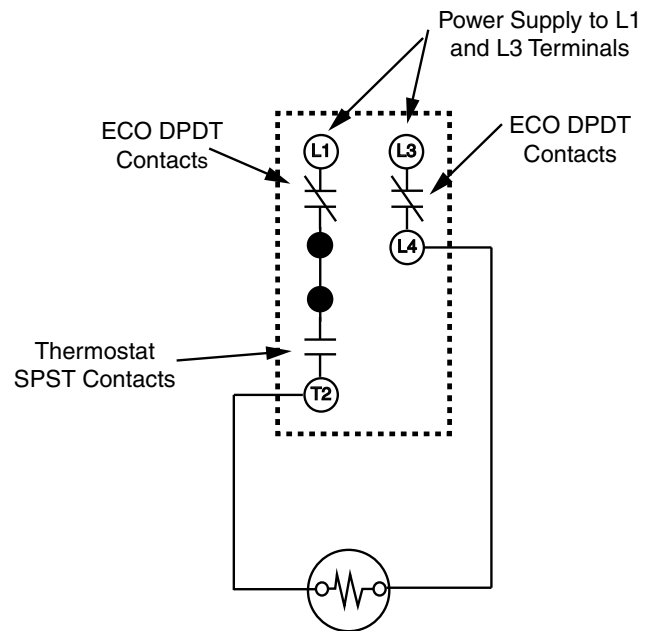

Figure 13. Thermostat/Eco Internal Wiring
**Service Note: Grounded Elements:** Grounded elements on surface mount control models, *Figure 1* (page 9), can draw low amps because power is continuously present at one terminal on each element. See *Figure 13* (page 19). Power from the thermostat's L4 terminal is always present at each element and can flow from a grounded element through the water to the storage tank. If the measured amps are considerably less than the values in the table above, test those elements for grounding. See *Heating Element Resistance & Ground Tests* (page 26).